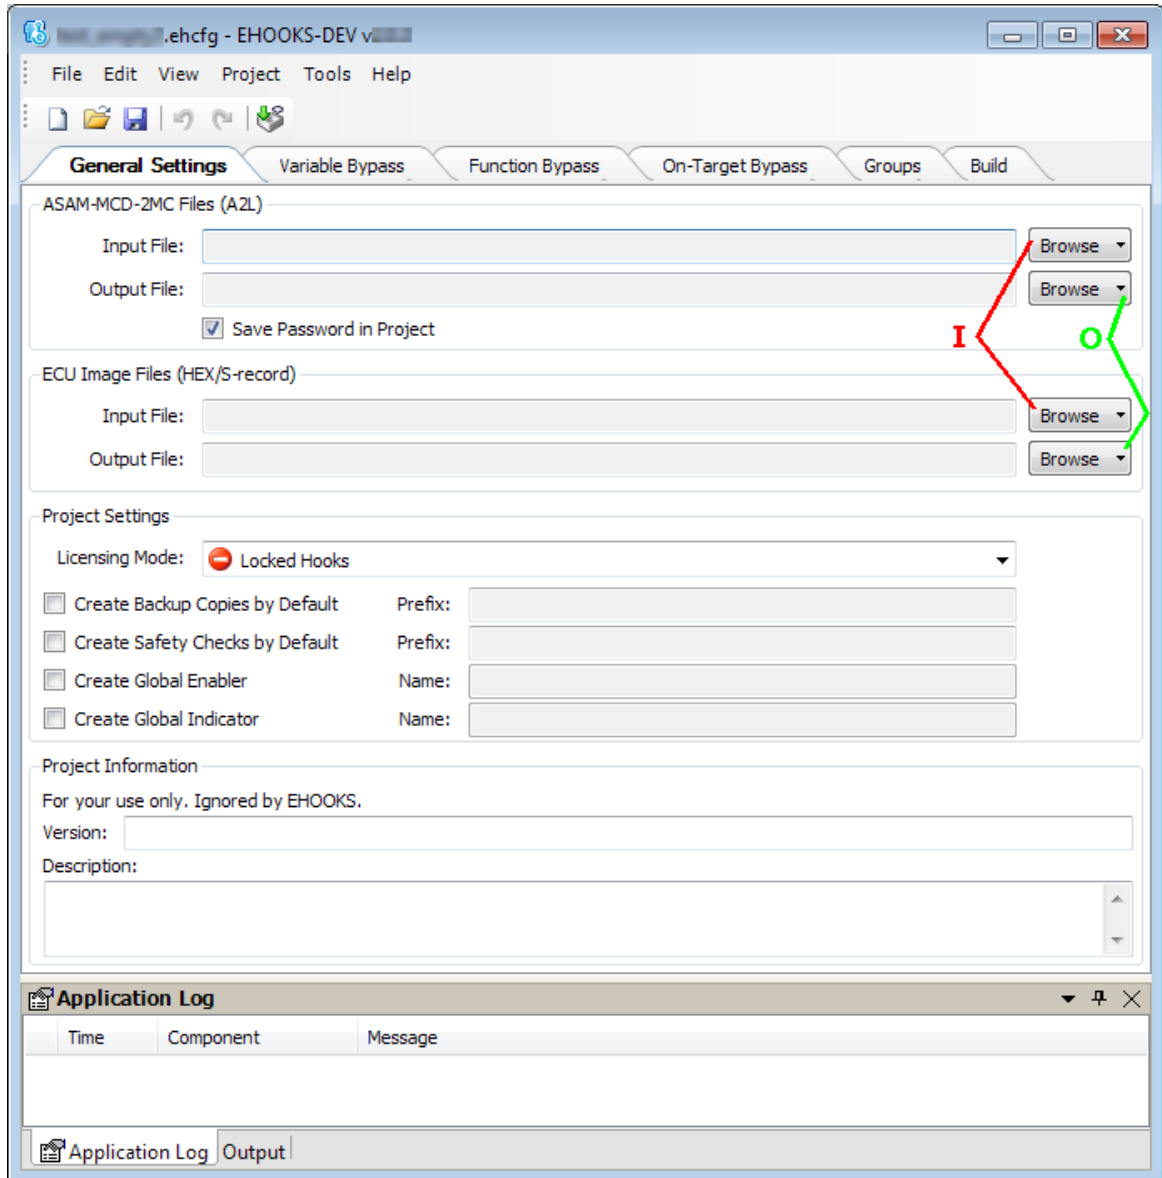

Figure 4.6: EHOOKS-DEV window: Choosing EHOOKS files
- In the EHOOKS-DEV window, use the first and third **Browse** buttons (I in Figure 4.6 on page 19) to select input \*.a2l and \*.hex files.
- In the EHOOKS-DEV window, use the second and fourth **Browse** buttons (O in Figure 4.6 on page 19) to enter output \*.a2l and \*.hex files.